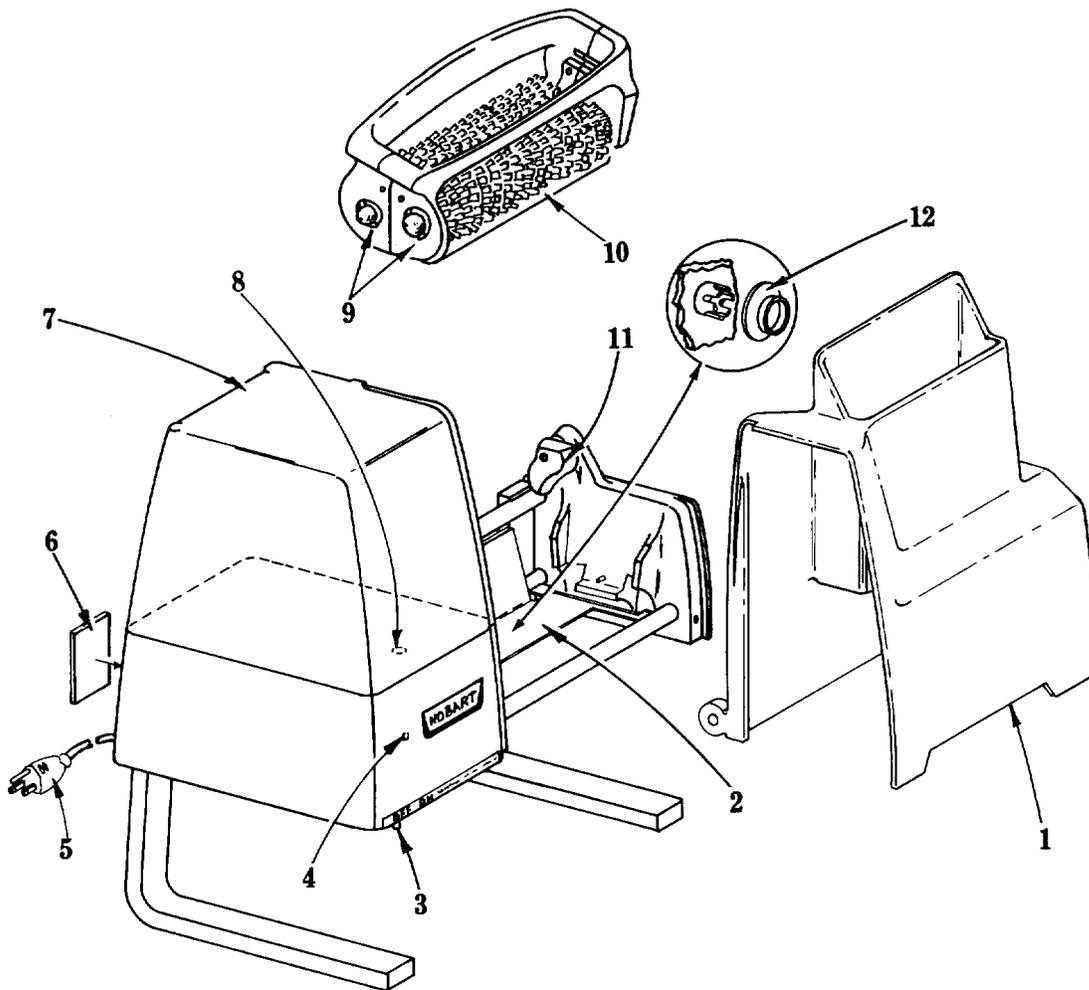

Figure 1
A shield (2, Fig. 1), sealed and locked into place, protects an operator's hand from touching the revolving knives in the discharge area of the machine. This shield also deflects particles of meat from the transparent guard.
This tenderizer has a special magnetic safety interlock system that makes the machine inoperative if either the transparent guard (1, Fig. 1) or the motor housing (7, Fig. 1) is lifted or removed.
Before operating machine for the first time pull "Vent" tag to remove sealing tape from vent hole (8, Fig. 1). Insert dipstick in vent hole.
Each machine is furnished with a three conductor cord and plug (5, Fig. 1) to be used in a properly grounded receptacle. Before plugging into socket, be sure the line current available is the same as specified on the machine serial data plate (6, Fig. 1).
Turn on the switch (3, Fig. 1) at the underside of the tenderizer. A pilot light (4, Fig. 1) will then glow indicating when switch is in the "on" position (even though the transparent guard or the motor housing are either in or out of position).
- A.2 Replace transparent guard (1, Fig. 1), actuating safety interlock.
- B.2.3 Disconnect the machine from its connection to electric power, then lift off transparent guard (1, Fig. 1).
- B.2.4 Release hanger lock (11, Fig. 1) and remove the lift-out unit assy. (9, Fig. 1).
B.2.6 Remove strippers (10, Fig. 1) from roller assemblies.
B.2.13 Remove the seals (12, Fig. 1) from the stub shafts and clean behind them. Wash and replace the seals.
B.2.14 Occasionally remove the motor housing (7, Fig. 1) by pulling straight up and wipe around the motor and fan.
The motor housing (7, Fig. 1) is held in place by friction split type pins. Remove transparent guard from over the knives, then lift the motor housing straight up. No lubrication or maintenance is required for this motor.
A special lubricant is used in the gear case. Use the dipstick in the vent hole (8, Fig. 1) to check lubricant level annually. Add lubricant as required to maintain level BETWEEN lines on dipstick.